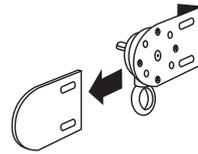

Fig 2
- Start by sliding off the bracket cover on the clutch unit if installed (Fig 2).